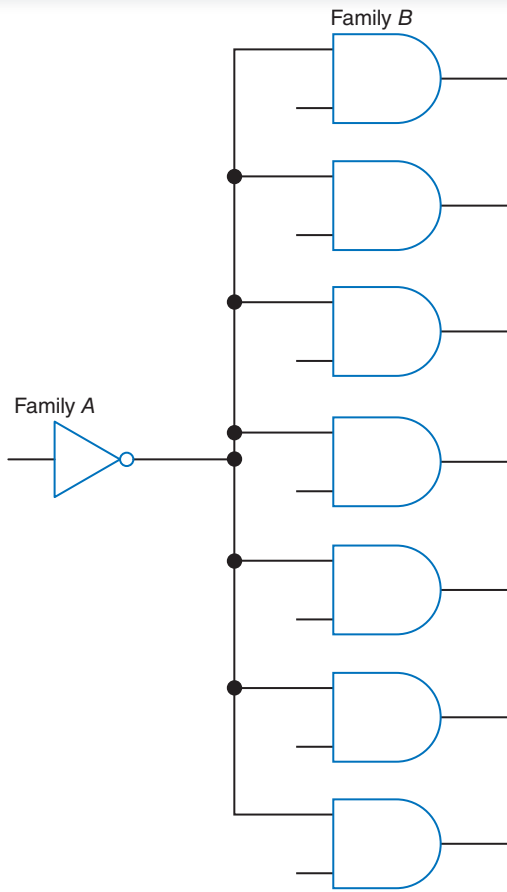

Fig. 5-47 Interfacing problem.
- 5-21. Refer to Fig. 5-47. If both family A and B are TTL, the inverter _____ (can, may not be able to) drive the AND gates.
- 5-22. Refer to Fig. 5-47. If family A is ALS-TTL and family B is standard TTL, the inverter _____ (can, may not be able to) drive the AND gates.
- 5-23. Refer to Fig. 5-47. If both families A and B are ALS-TTL, the inverter _____ (can, may not be able to) drive the AND gates.